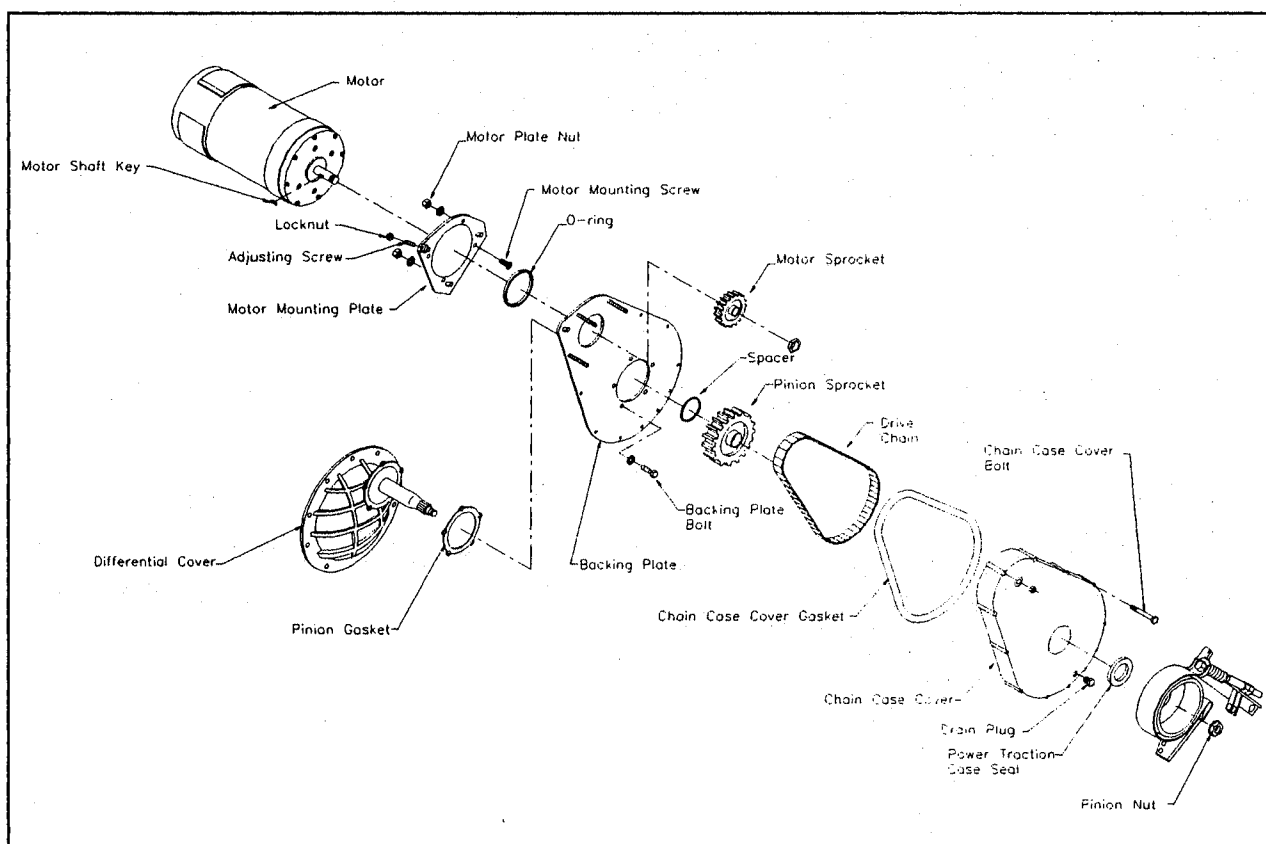

Figure 3-11
- Loosen the nuts on the motor mounting plate just enough to let the motor and plate move freely (see figure 3-11).
- Loosen and remove the 1/2" bolt and the brake band assembly components (see figure 3-11).